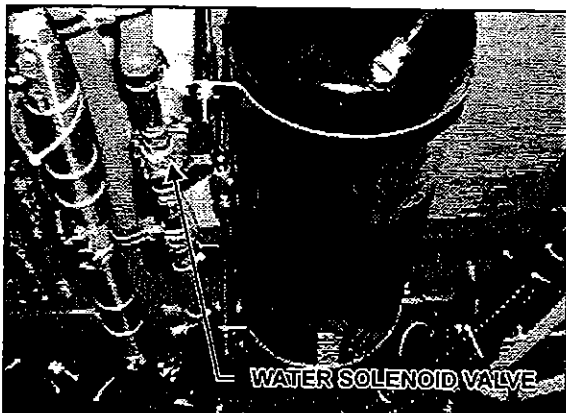

Figure 30
2. Locate the normally open water solenoid valve on the ceiling of the spare wheel compartment (Fig. 30), disconnect its wiring connector, then connect a 24-volt external power source, using jumper cables, to close valve.